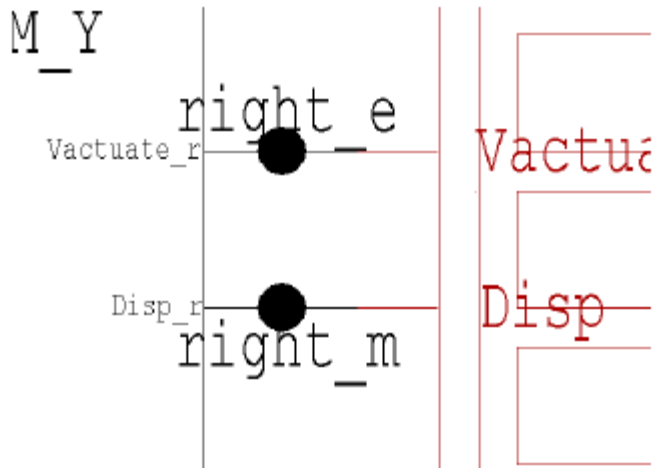

Figure 6: right_m and right_e nodes
- ✂ Edit the node labels orientations to look somewhat like the layout in Figure 6.